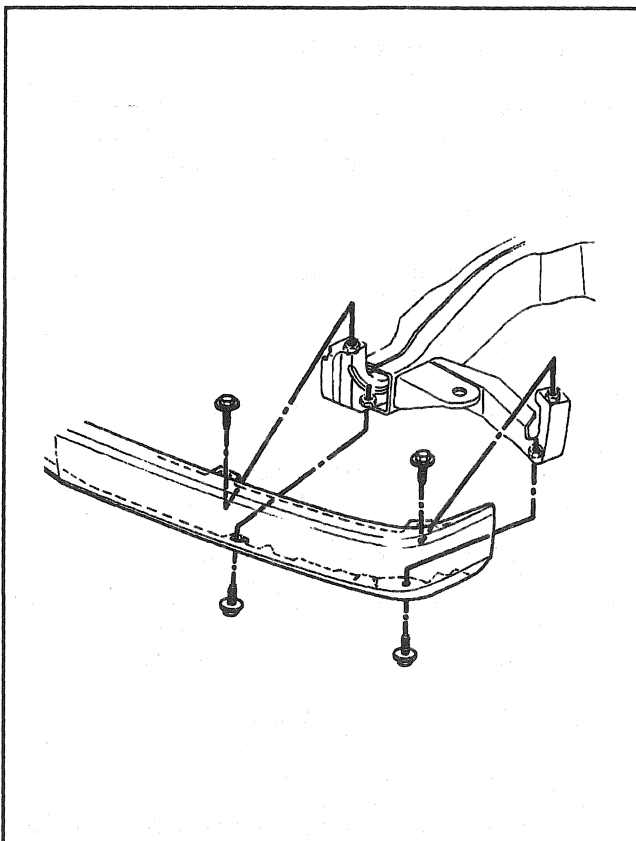

Figure 12—Front Bumper
Remove or Disconnect (Figures 12 and 13)
2. Bumper to brace bolts and washers (Figure 12).
Install or Connect (Figures 12 and 13)